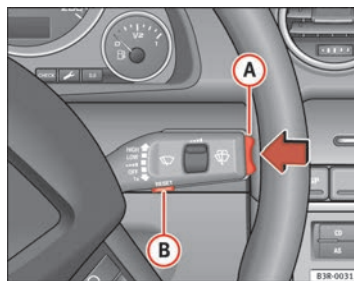

Fig. 60 Windscreen wiper lever: Onboard computer controls
Press RESET button  ⇒ page 86, fig. 60 to switch back and forward between onboard computer functions 1 and 2.
The driving time warning can be switched off by briefly pressing the function selector switch or the **[Reset]** button ⇒ fig. 60.
- Press the top or bottom of the function selector switch **(A)** ⇒ fig. 60. This displays the functions of the onboard computer in sequence.